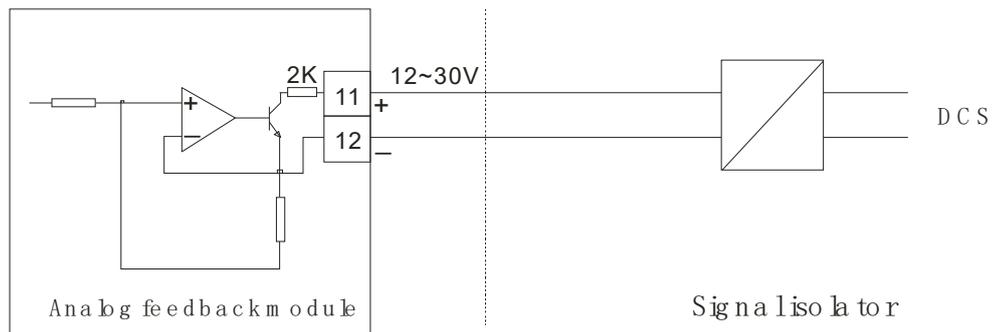

Fig.4-13 Analog feedback output module electronic connection
4.4.3.3 Analog feedback module electrical connection (Fig.4-13)